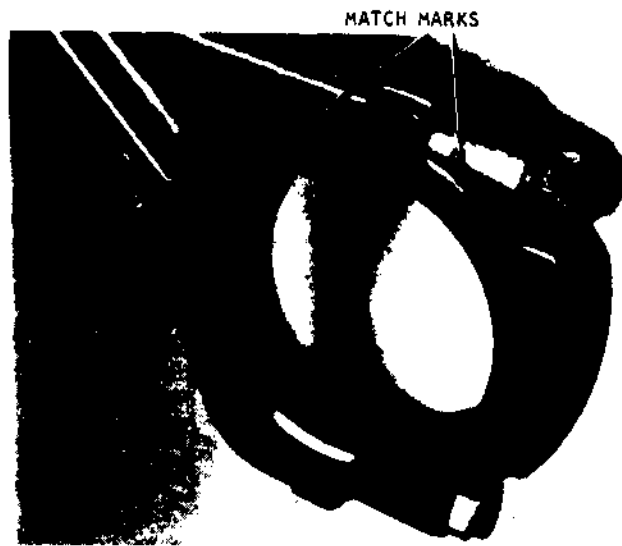

Figure 28
2. All connecting rod and cap assemblies have two match marks as shown in Figure 28. **These match marks must be on the same side as assembled on the crankshaft.** Since the rods are chamfered on both sides it is not important whether the match marks face the pump end or motor end when the rod is assembled into the compressor.